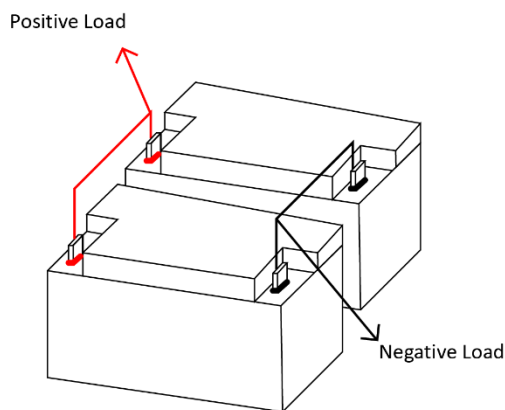
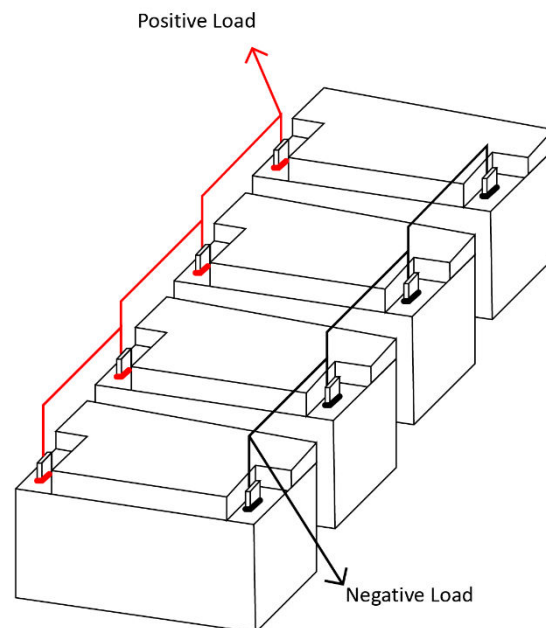

Figure 3.1: Two 1250 Batteries connected in Parallel to create a 12V 100Ah Battery Bank
Figure 3.2: Four 1250 Batteries connected in Parallel to create a 12V 200Ah Battery Bank
7. Repeat steps 3-6 for additional batteries in the system. An example of a finished connection can be found below in Fig. 3.1 and Fig. 3.2.